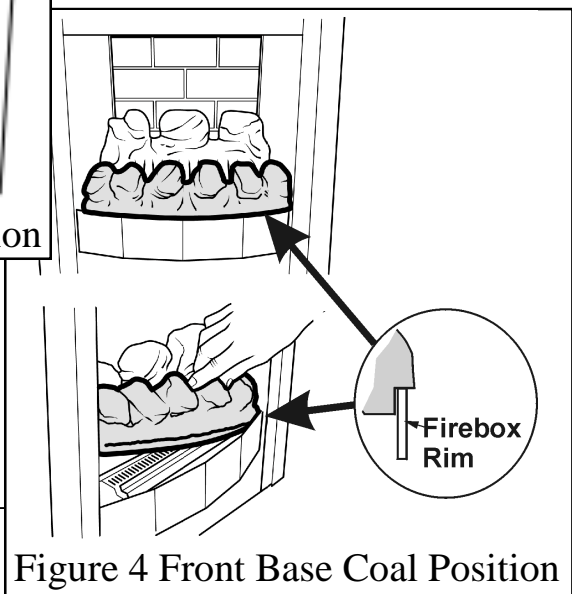

Figure 4 Front Base Coal Position
3. Place the front base coal in the firebox with its bottom front locating over the front rim of the firebox. Pull the coal forward so that it locates immediately behind the front rim of the firebox. See figure 4.